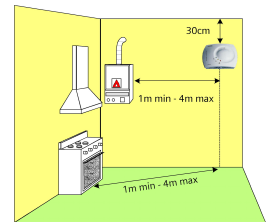

Fig.1: Methane gas detection
**ESN14.G - ESN16.G - ESN26.G:** 20 - 30 cm from the ceiling, for the detection of light gases as methane (fig.1).